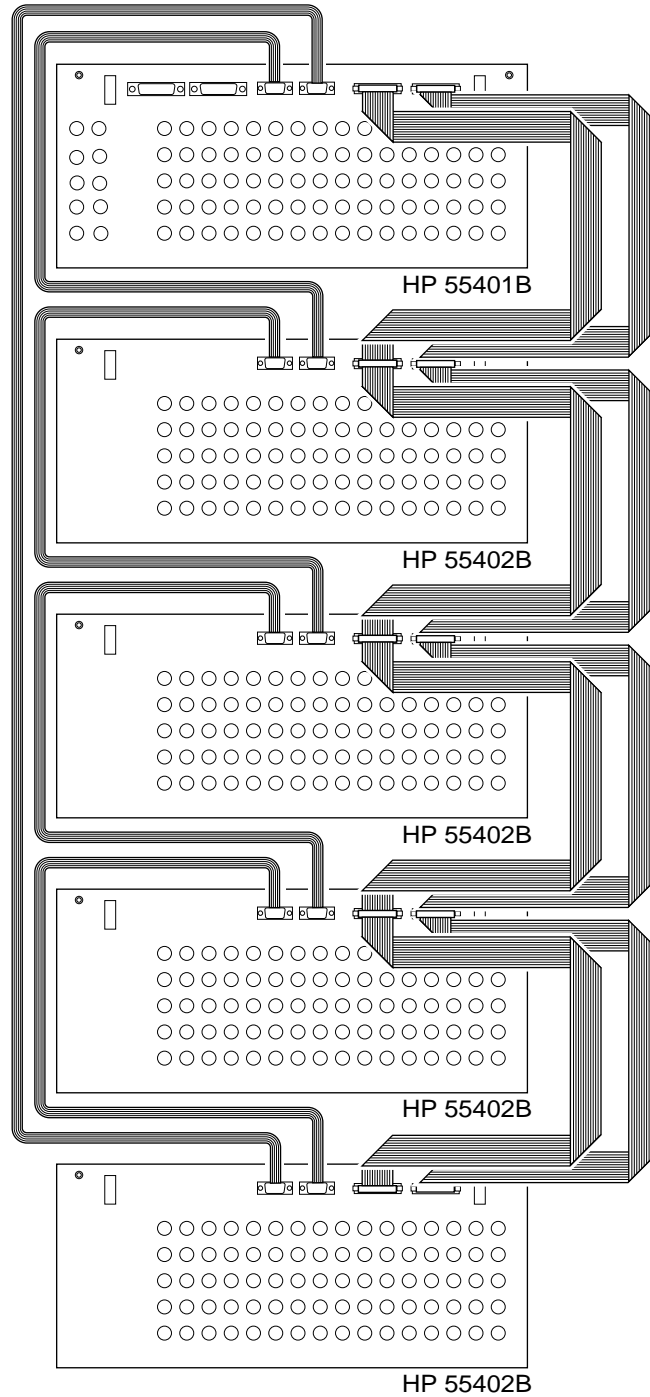

Figure 8. Expansion Subrack Cabling Diagram
H. Expansion Comm Port (2)
8.29. If you are planning to communicate with the HP 55400A system via terminal or computer, cables will be needed for the Expansion Comm Port connections. These ports use a daisy-chain scheme that is shown in Figure 8 below. The J5 connector of the master subrack is connected to the J6 connector of the first expansion subrack, and so on (see Figure 3 for location of J5 and J6). A loop will be closed when the cable from the last expansion subrack is connected to the J6 connector of the master subrack. See Figure 8.
I. Expansion Signals (2)
8.31. There are two 16-pin Expansion Signal connectors that provide backplane bus access for all the internal communications between the multiple subracks. The “Expansion Signal 1” connectors of all the subracks need to be connected together with a single ribbon cable. The same is required for “Expansion Signal 2” connectors of each subrack. See Figure 8.